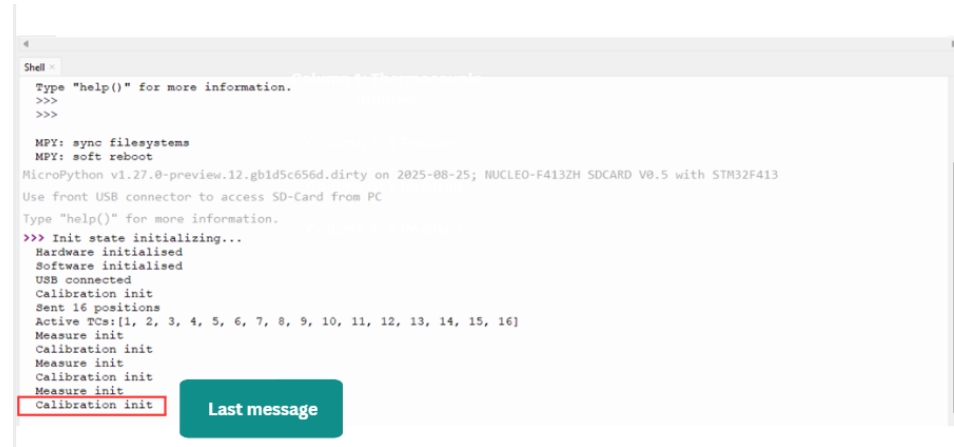

Figure 34: Thonny shell upon entering measurement mode and calibration mode.
To confirm whether the system is in calibration mode or measurement mode, check the last message in the Thonny terminal (see Figure 34).
- Ensure the Python shell appears as shown in Figure 34.